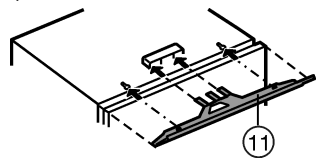

Fig. 9
- ▶ Fit the equaliser trim Fig. 9 (11) concentrically onto the appliance: Slide it into the recess and engage it in the keyholes.